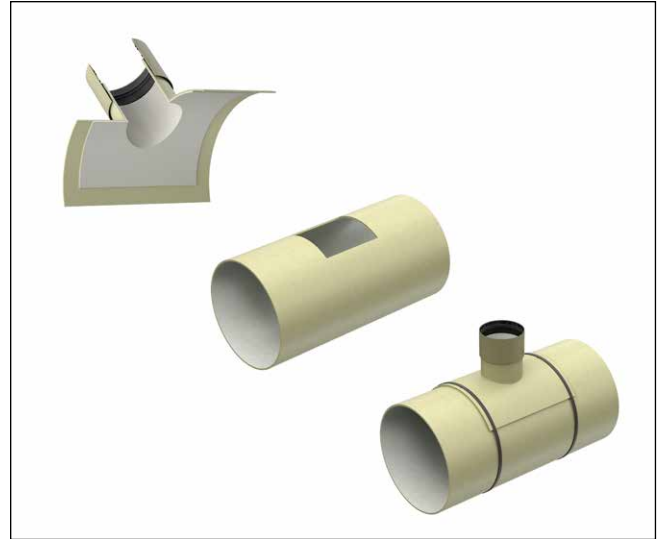

Fig. 70: Assembly of glued saddles
13.8.4. ASSEMBLY OF GLUED SADDLES (SEE FIG. 70)